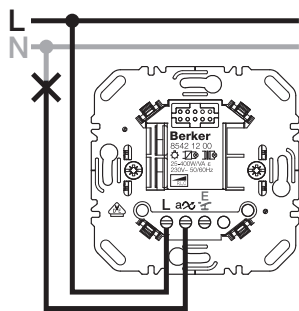

Figure 3: touch dimmer
- Circuit touch dimmer and optional extension units according to the connection diagram (Figure 3 to 6).